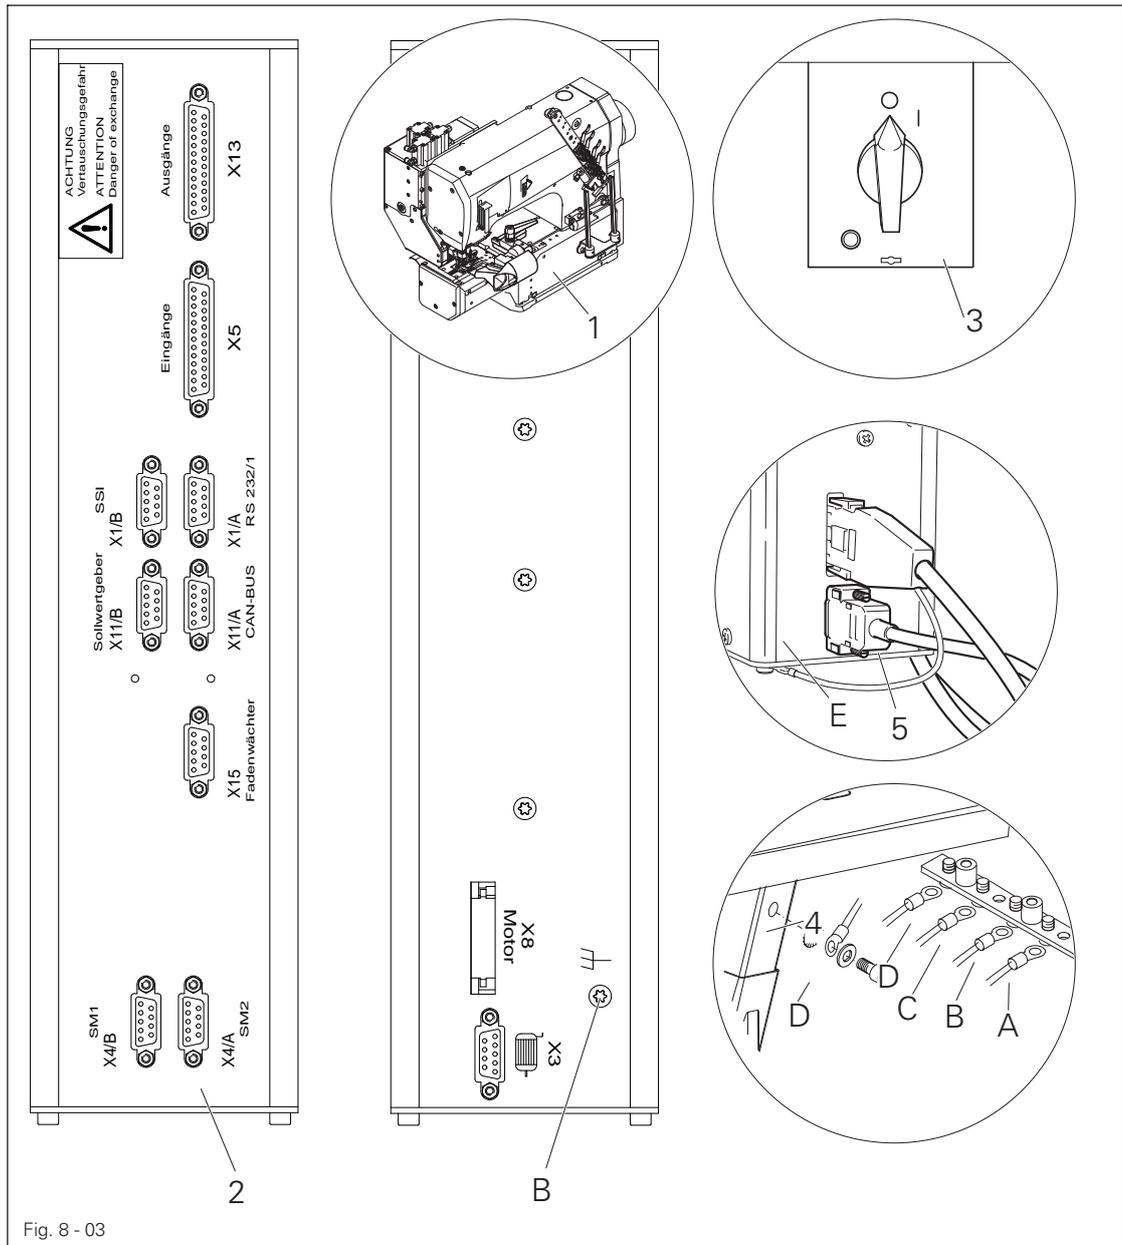

Fig. 8 - 03
- Assemble the reel stand as shown in Fig. 8 - 02.